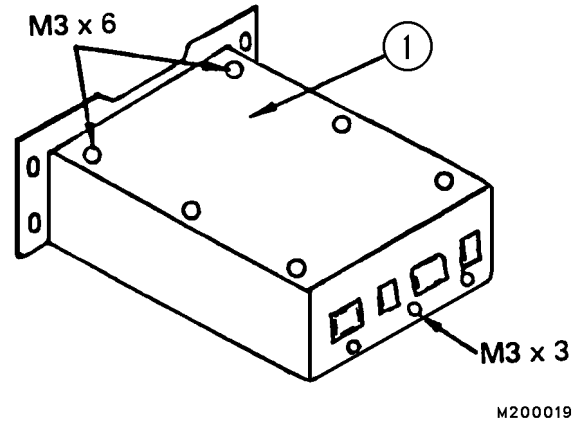

FIGURE 20-8. ACCESS TO BATTERY
4. Remove the electrical connector. Remove the screws on the top surface and the rear face. Remove the cover (Figure 20-8). This will expose the battery, its wires, and the connector.